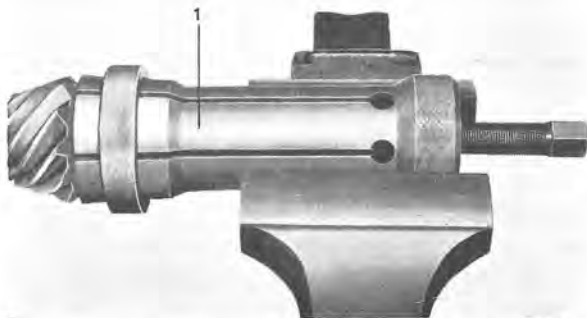
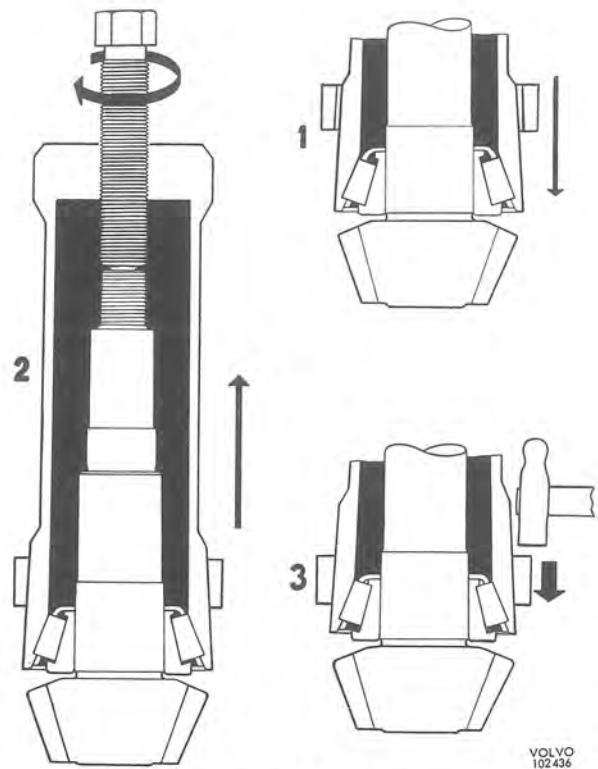

Fig. 4-145. Removing rear pinion bearing
Fig. 4-146. Puller fitted
11. If necessary, pull off the rear bearing from the pinion with puller SVO 2844, see Fig. 4-145. The puller is fitted in the following way (see Fig. 4-146): Move the puller down over the rollers and press down the lock ring. Then pull up the puller with the bolt until the rollers lie flush with the edge of the inner race and the edge on the puller. Tap out the lock ring with a hammer.